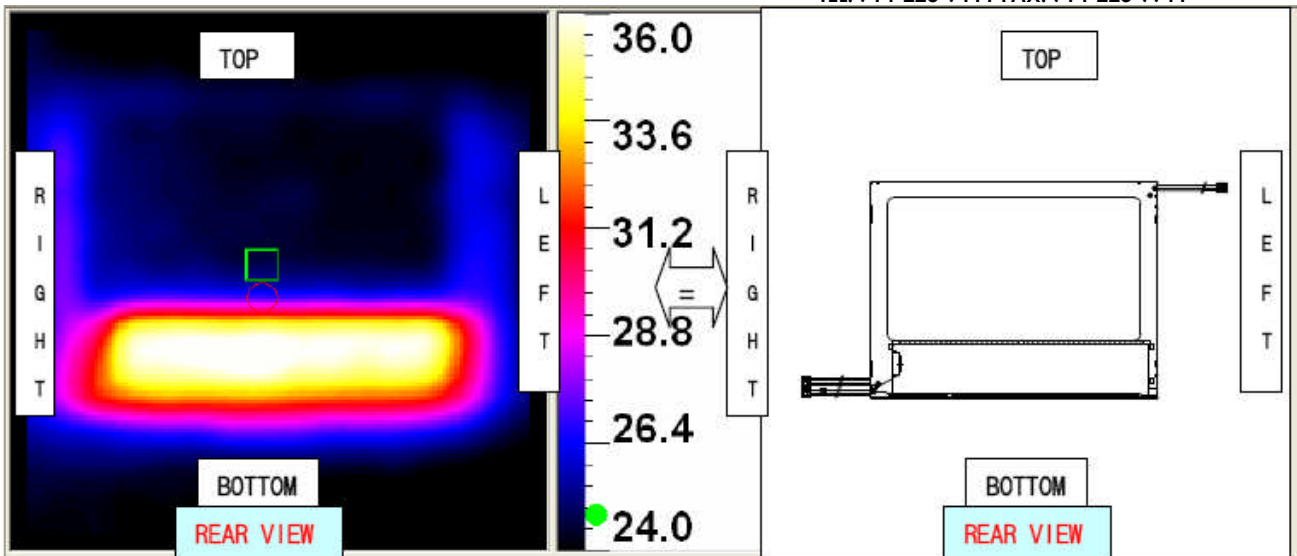

Figure 1. Thermal Map Showing the Heat Imaging of the LVM104XSB-411B-L-NVG w/ Day Mode (REAR VIEW)
- (4) Be careful for condensation at sudden temperature change. Condensation makes damage to polarizer or electrical contacted parts. And after fading condensation, smear or spot will occur.
- (5) When fixed patterns are displayed for a long time, remnant image is likely to occur.
- (6) A module has high frequency circuit. It might be necessary to shield the electromagnetic noise in your integrating system.
- (7) When a Backlight unit is operating, it may make sounds. It might be necessary to shield your integrating system to cut down the noise.
- (8) The thermal map showing the heat imaging of the module (LVM104XSB-411B-L-NVG) is shown In figure 1. Please reference the thermal map for optimum thermal design to maximize the MTBF of LED life.